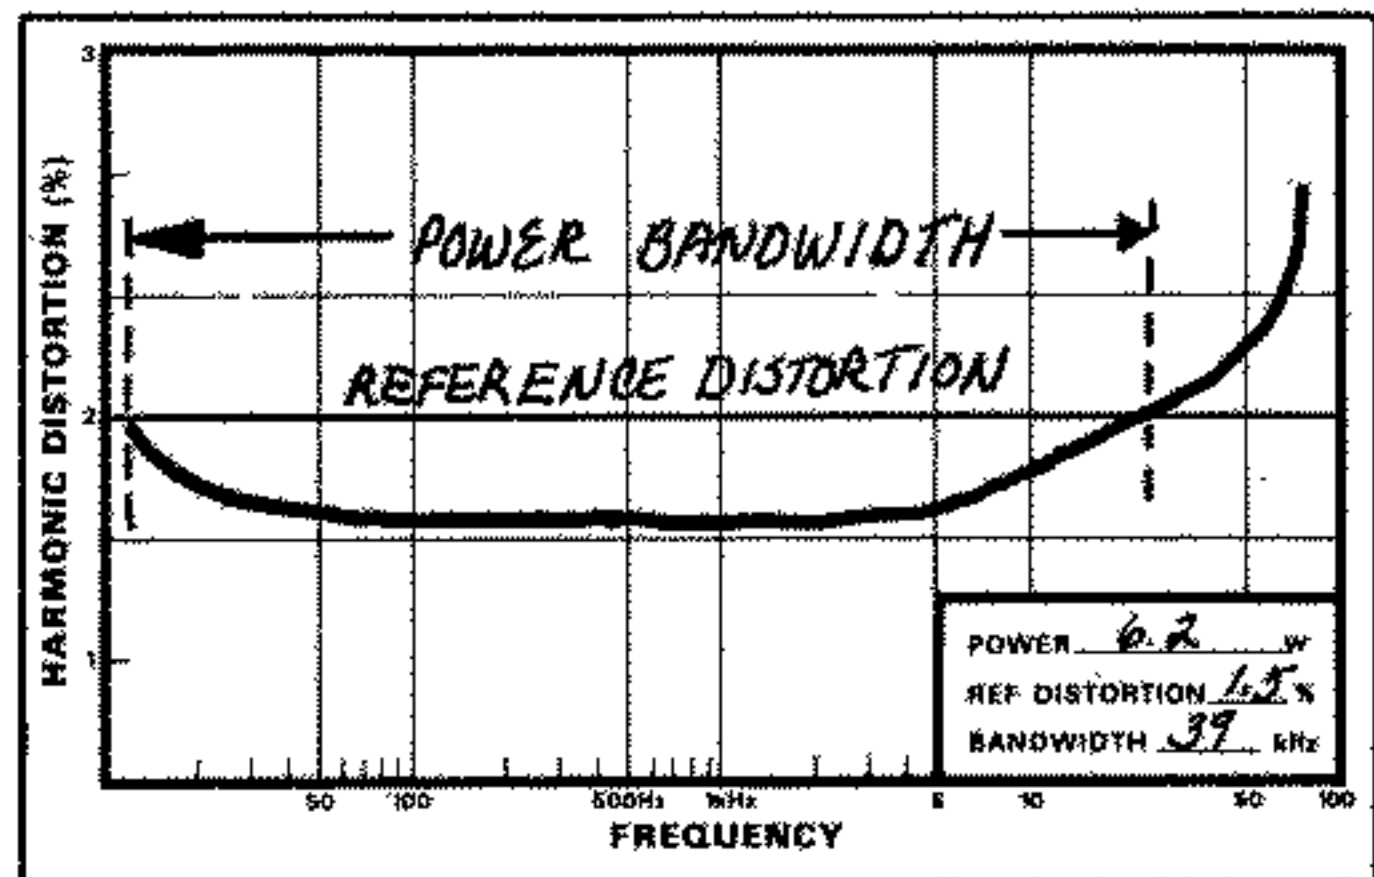

Figure 31 Power Bandwidth of an Amplifier
2. Measure the distortion of a 1 kHz tone at the rated power output of the amplifier. This is the REFERENCE DISTORTION and should be plotted on the chart as shown in Figure 31.